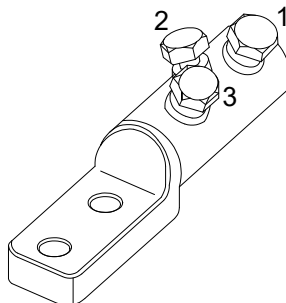

Figure 4
- E. Hand tighten the bolts to firmly grip the conductor. Use the tightening sequence shown in Figure 4 to tighten the bolts one-and-a-half turns. Bolts should remain un-sheared.